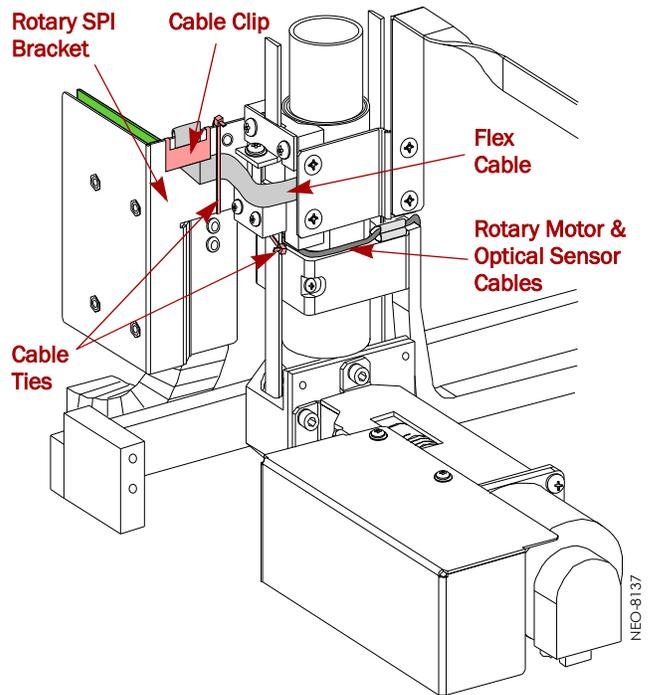

Figure 3. Remove Flex Cable Tie Down and Clip
3. When replacing the **rear belt** (Figure 3):
8. When replacing the **rear belt** (Figure 3):